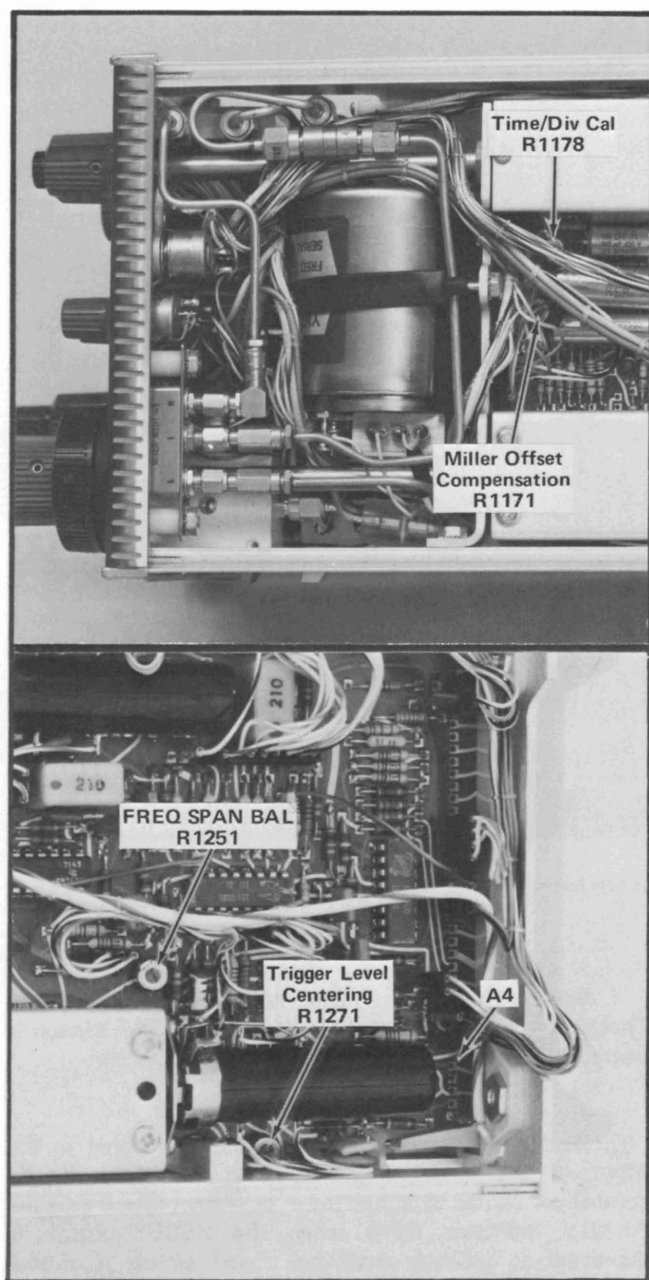

Fig. 4-2. Triggering and time base adjustments and test point.
e. Adjust Trigger Level Centering (R1071, Fig. 4-2) until the sweep triggers at each position (+ and -) of the SLOPE selector.
l. Connect the probe tip to the junction of R1010 and A4 (Fig. 4-2). Switch the 7L12 Trigger MODE to NORM and SOURCE to LINE. Change the Vertical amplifier Volts/Div to 1 V. Check for approximately 2 V P-P line voltage at the junction. Disconnect and remove the probe tip from A4.
d. Adjust the Time/Div Cal R1178 (Fig. 4-2) for 1 marker/division.
f. Adjust the Miller Offset Compensation R1171 (Fig. 4-2) for 1 marker/division.